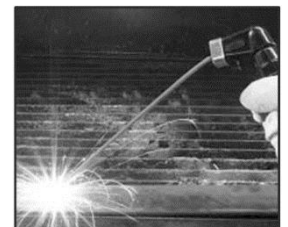

Fig. 23
1. Strike the electrode on the workpiece to create the arc and hold the electrode steady to maintain the arc (Fig. 23)